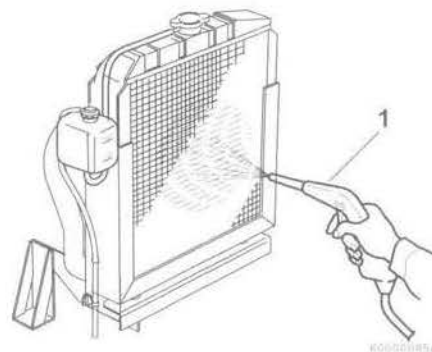

Figure 11
Note that a typical radiator is shown in **Figure 11** for illustrative purposes only.
- Blow off dirt and dust from fins and radiator with 28 psi (0.19 MPa, 2 kgf/cm²) or less of compressed air (1, **Figure 11**). Be careful not to damage the fins with the compressed air.